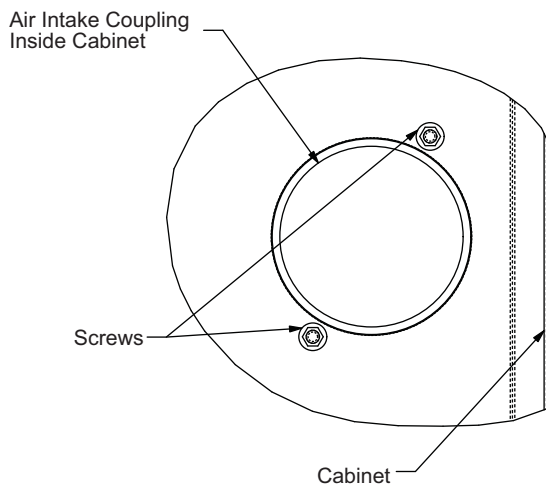

Figure 22. Type A - Removing Air Intake Adapter from the Inside of Cabinet
4. Type A units - Remove the air intake adapter by removing the two screws that secure it to the cabinet. Remove the four screws on the aluminum elbow, make note of the pressure switch bracket location. It may be necessary to disconnect the gas pipe to the gas valve before removing the screws. See **Figure 22**.